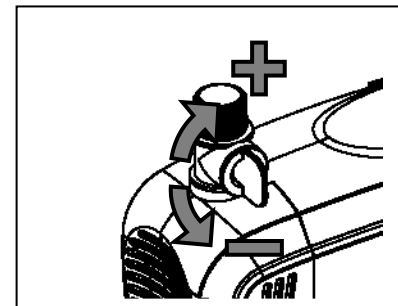

Fig. 6
6. Adjust the flow control to the preferred setting. Fig. 6